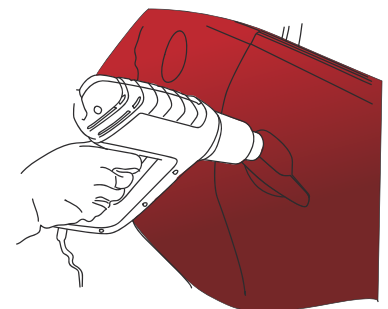

Figure 28
- › Once the application is finished, heat once more all the parts which have undergone severe deformation using the heat gun. (FIG. 28)